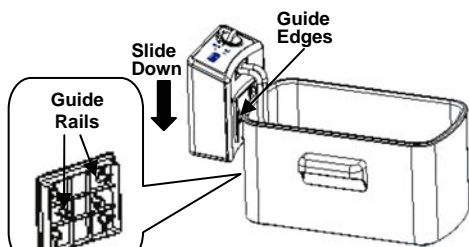

Fig. 2
2. Insert the guide edges on the control panel into the guide rails mounted on the metal body. (Fig. 2)